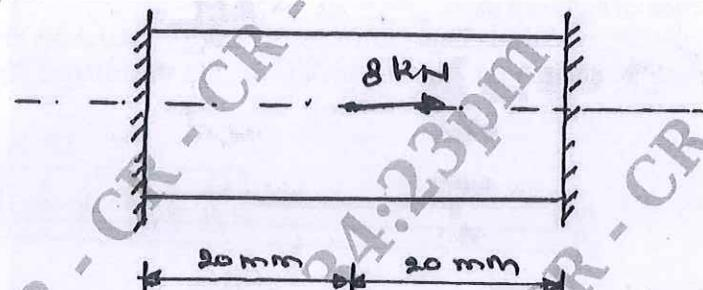

Fig.Q2(b)
b. Use Rayleigh-Ritz method to find the stress and displacement at loading point of a bar shown in Fig.Q2(b). Take $E = 70 \text{ GPa}$, $A = 100 \text{ mm}^2$.